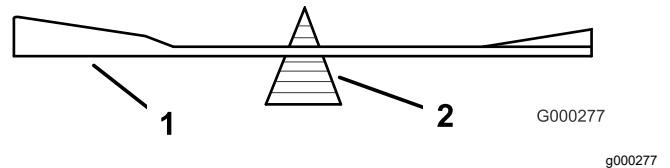

Figure 83
2. Check the balance of the blade by putting it on a blade balancer (Figure 83).